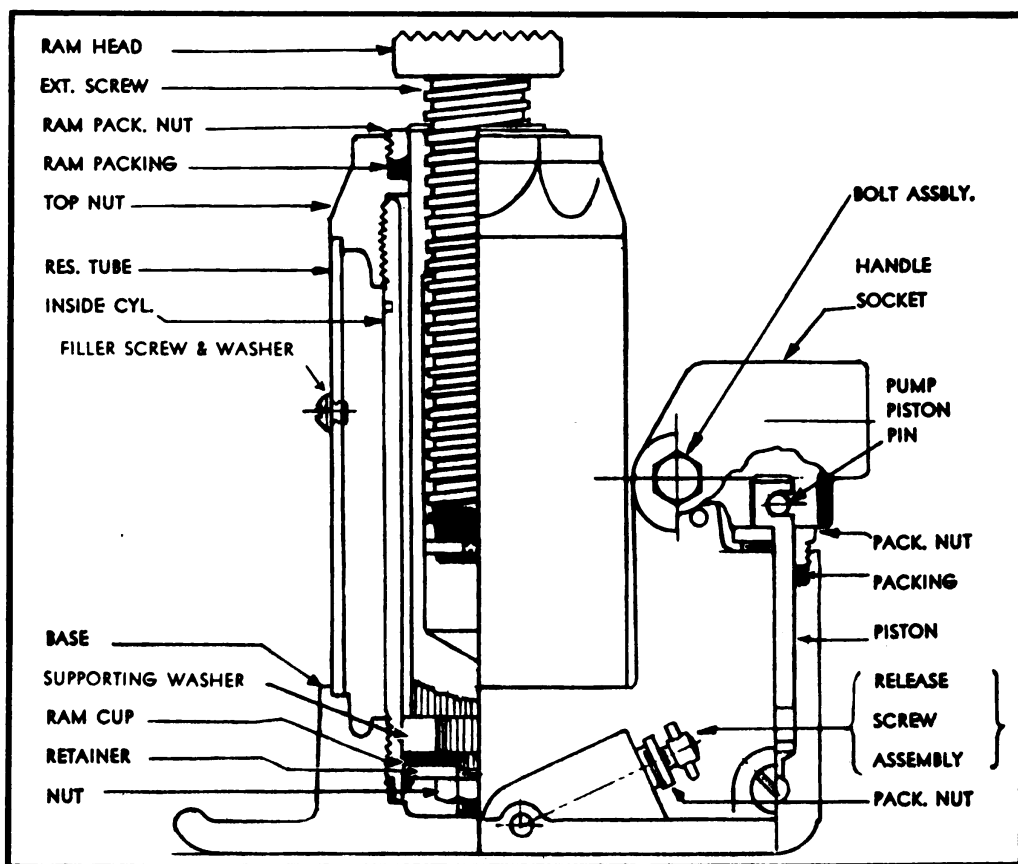

FIGURE 67. SUPPORT JACK
e. Piston.—(1) The piston of every jack will need replacing depending upon the amount of work it is put to.
(2) A worn piston can be detected by leakage of oil when lifting a load (Figure 67).
(3) To install a new piston first remove jack filler screw to expel excess air.
(4) Replace filler screw.